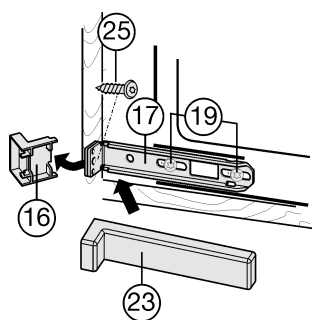

Fig. 18
- ▶ Loosen the screws *Fig. 18 (19)* a little.
- ▶ Tightly screw the bottom mounting bracket *Fig. 18 (17)* to the unit wall using Spax screw *Fig. 18 (25)* $\varnothing 4 \times 19$.
- ▶ Break off the projecting end of the cover *Fig. 18 (16)*. It is no longer required.
- ▶ Tighten the screws *Fig. 18 (19)*.
- ▶ Put the cover *Fig. 18 (23)* on the bottom mounting bracket *Fig. 18 (17)*.